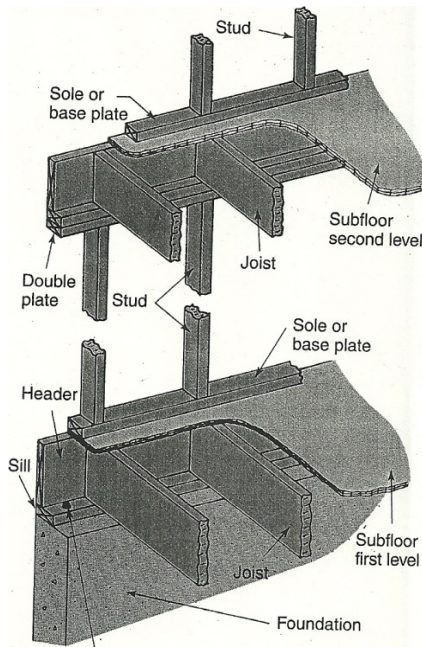

Figure VIII.4 Platform Framing
**VIII.4.1. Platform framing** – Platform framing, also known as western framing, is the most widely-used type. The first floor is built on top of the foundation, so it resembles a platform when the subflooring is complete. The first floor and wall sections are raised and a second-floor platform is built on top of these walls. Then, the second-floor wall sections are raised and another platform for the second story ceiling is constructed. Each floor is a separate unit built on the structure below. See Figure VIII.4.